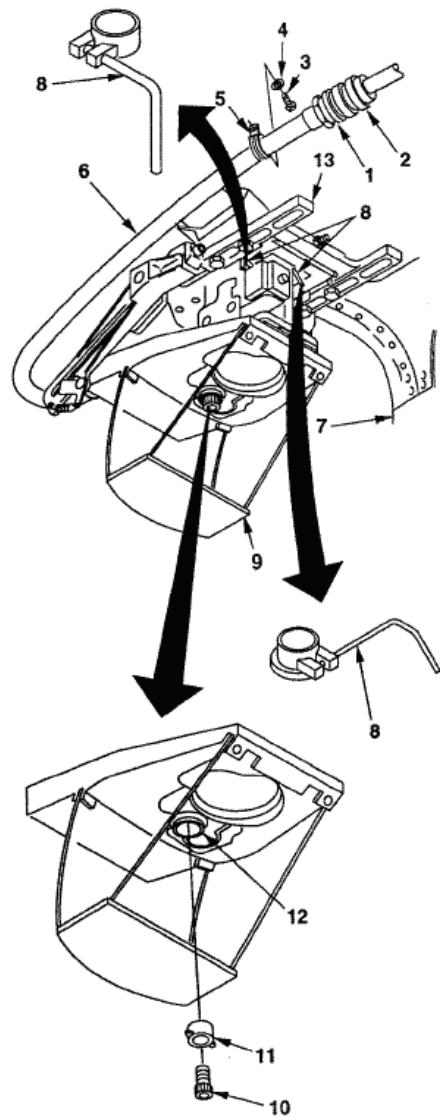

Figure 5
f. Removal of the PDU. (If installed.) (See Figure 5.)
- (1) Disconnect electrical connector (1) from helicopter disconnect (2).
- (2) Remove screw (3), washer (4), and clamp (5) securing PDU electrical cable (6) to cockpit overhead (7).
- (3) Loosen height adjustment lock release levers (8) and adjust PDU (9) to gain access to cap screw (10) and down stop (11).
- (4) Lock PDU (9) in position.
- (5) Remove cap screw (10) and down stop (11) from front mount post (12).
- (6) Loosen height adjustment lock release levers (8) and remove PDU (9) from mount assembly (13).